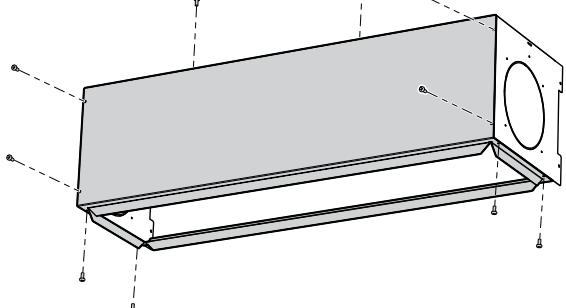

fig.7
- Use the four screws provided to fasten the RPM_V accessory to the unit flow vent (fig.7).